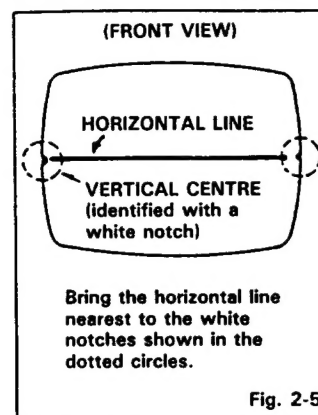

Fig. 2-5
6. Check the vertical center position by displaying a horizontal line. If incorrect, bring it to the center by rotating the two tabs, kept at an angle, together in either direction. (Fig. 2-5, 2-6)